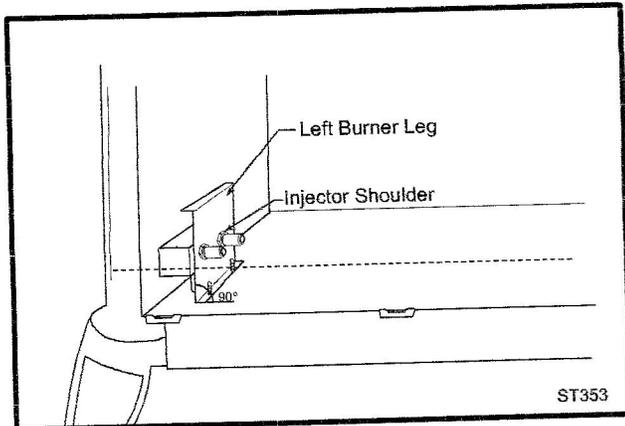

Fig. 47 Be sure to maintain 90° angle at left burner leg.
9. Refasten the two nuts and assemble the burner into the unit by sliding the burner in at an angle with the left side lower than the right side. Slide the left side onto the injectors. Lower the right hand side down into place. Make sure the burner is as far left as possible and the injector shoulders are inside the burner. **NOTE:** It is very critical to keep the left burner leg, which holds the injectors, at a 90° angle to the base. (Fig. 47) This keeps the orifices aligned with tubes on the inside of the burner. Failure to do so could affect the flame appearance and performance of the unit.